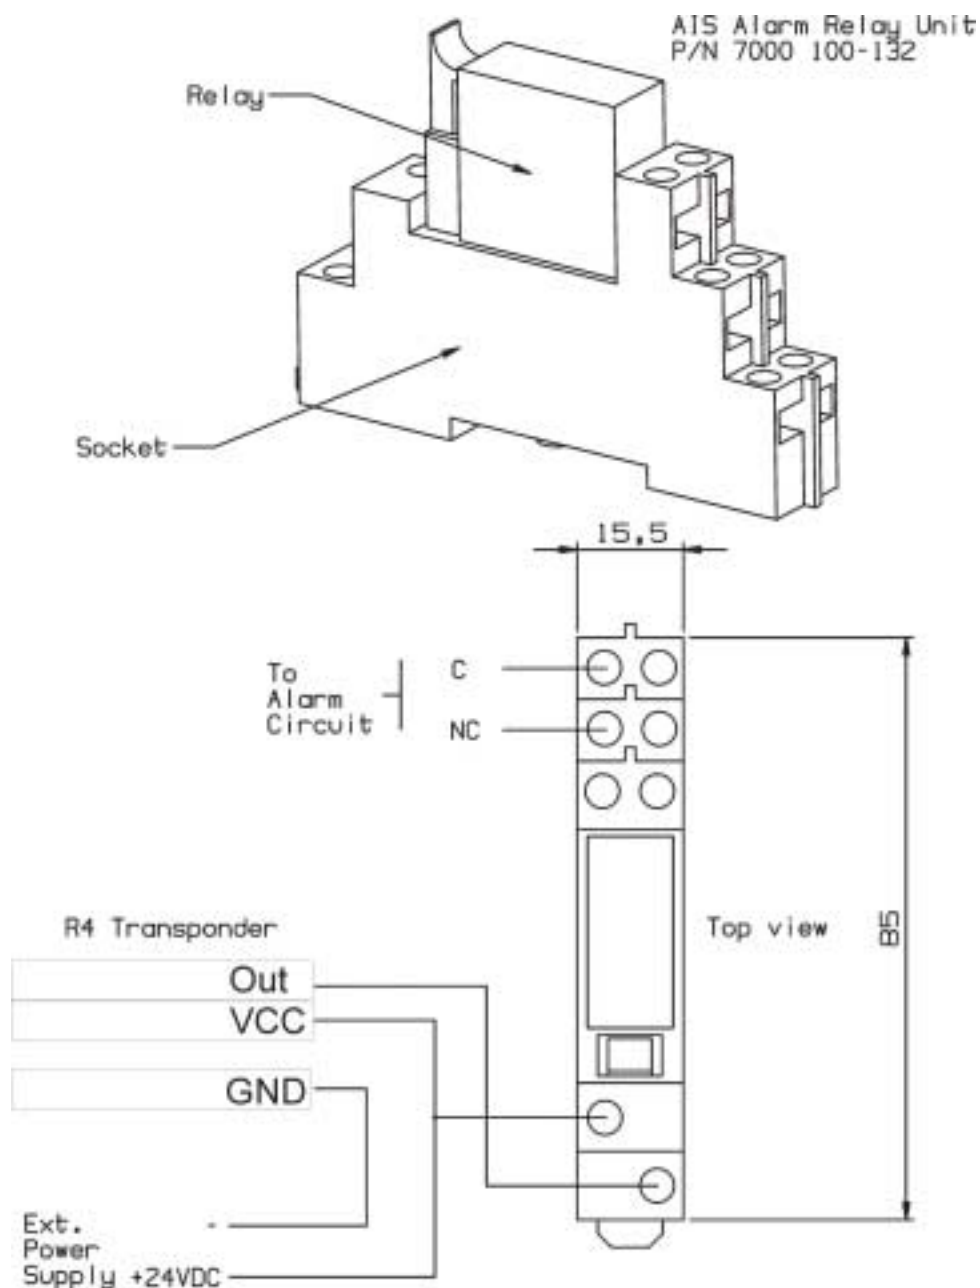

Figure 2: Alarm Relay Wiring
Alternatively, the ship's BIIT alarm system may use the alarm messages output on the AIS Presentation Interface (PI) provided the alarm system is AIS compatible. The AIS Alarm Relay is either mounted on a DIN mounting rail or direct on the wall. Wire connections according to Figure 2.